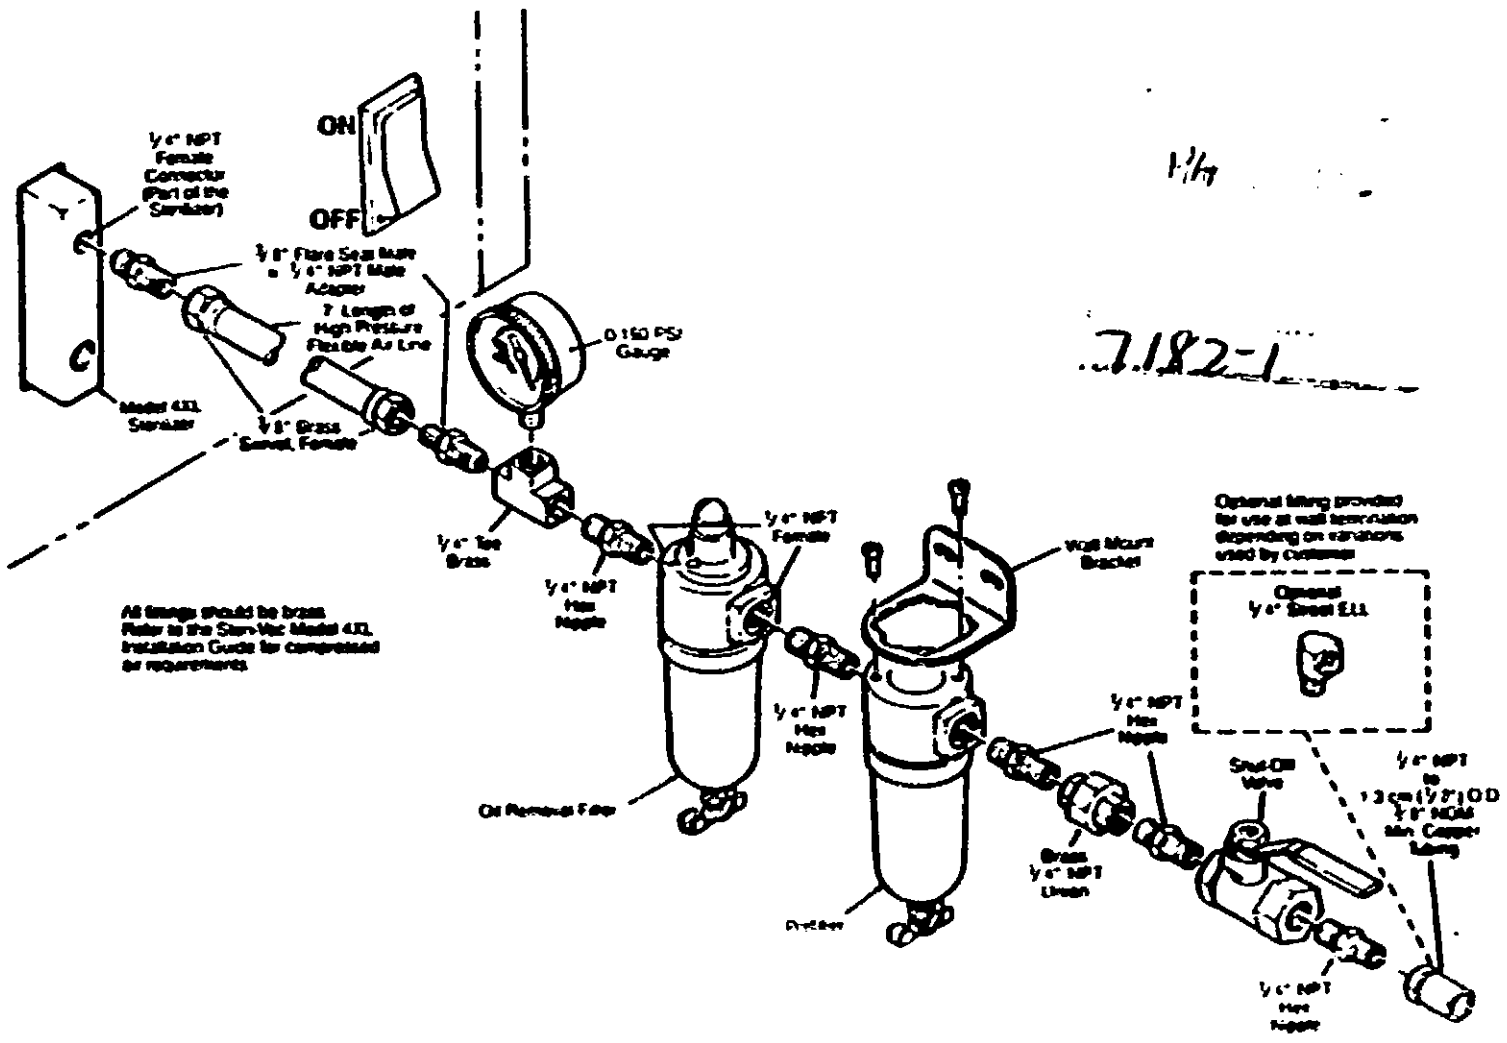

Figure 6: Compressed Air Connection
13.5.3 Connect the supply airline to the 1/4 in. National Pipe Thread fitting labeled "Airline" at the sterilizer. Refer to Figure 6 illustrating both stationary and flexible airline connections.